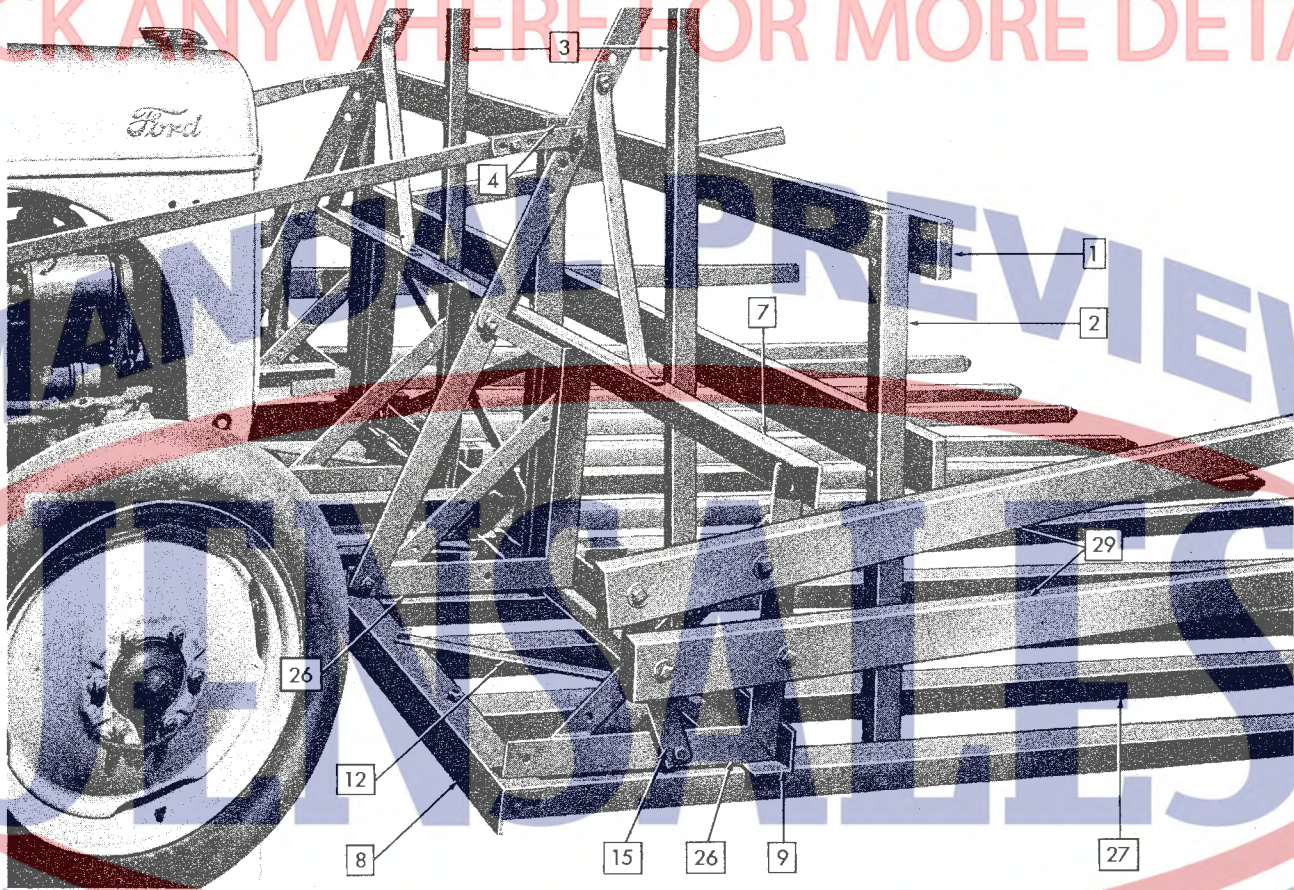

Figure 3
Step 3: Lay the 12 long wooden teeth (27) out on level ground or floor with points forward and long tongue of tooth facing down.
Step 5: Place bottom rear angle (8) on teeth with bolts protruding through holes, rear flange of angle pointing downward. Figure 3.
Step 6: Place bottom front angle (9) on teeth with angle flange up and facing forward. Bolts protrude through holes. Figure 3.
Step 7: Place the four diagonal short cross braces (12) in position between bottom cross angle (8) and bottom front cross angle (9). See Figure 3. Figure 3.
Step 8: Place the five steel triangles (26): one on each outside long tooth (27), one over each 4th tooth and one in dead center between 6th and 7th teeth. Each angle placed
in an upright position with 90° angle in bottom front cross angle (9). See Figure 3.
Step 10: Mount top cross angle (7) on steel triangle frames (26). Insert bolts, place on lock washers and nuts.